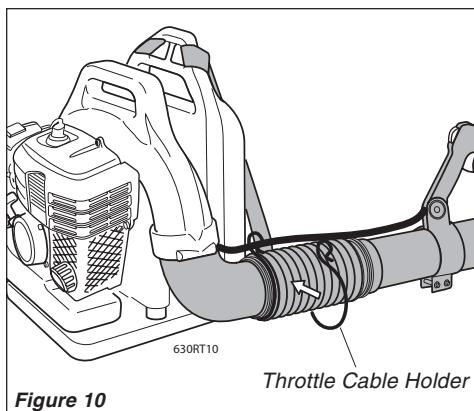

Figure 10
11. Install throttle cable holder just forward of the 100mm clamp. See Figure 10.